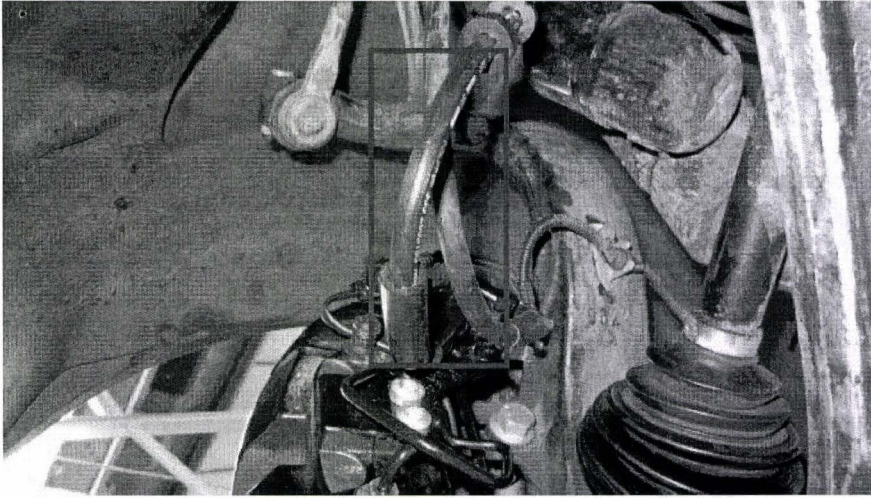

Figure 11
7. With the steering pointing straight ahead the position of the flexible brake hose in relation to the road wheel speed sensor boom should be as shown in Figure 11